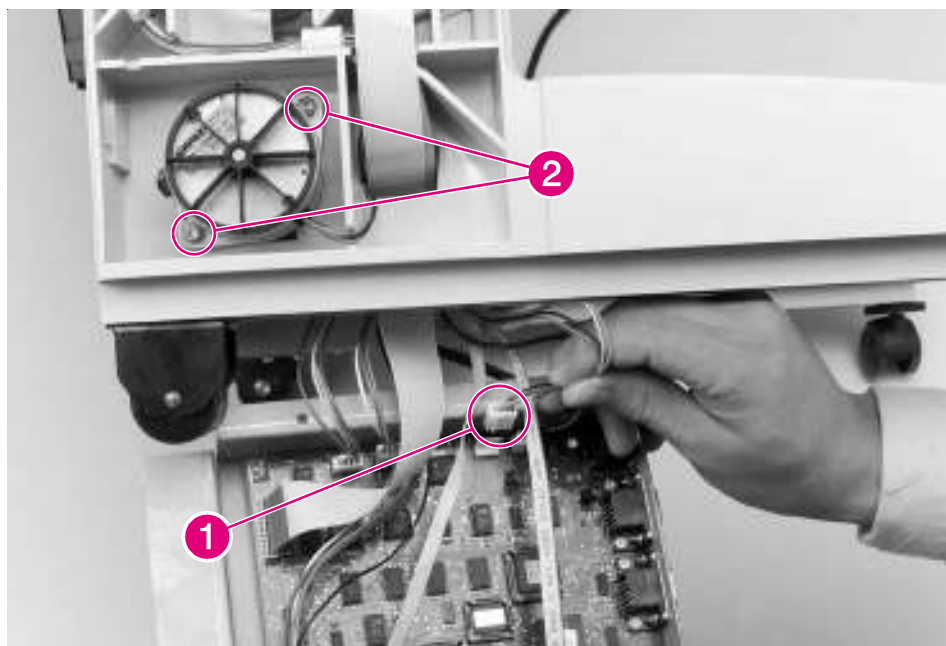

Figure 6-160 8-bin Mailbox Transport Belt Motor
- 4 Locate the cable that runs from the Transport Belt Motor to the 8-bin Mailbox Controller PCA, and disconnect the cable from the J8 connector on the Controller PCA (Figure 6-160, callout 1).
- 5 Remove the 2 screws (and washers) that secure the Transport Belt Motor to the 8-bin Mailbox frame (Figure 6-160, callout 2).